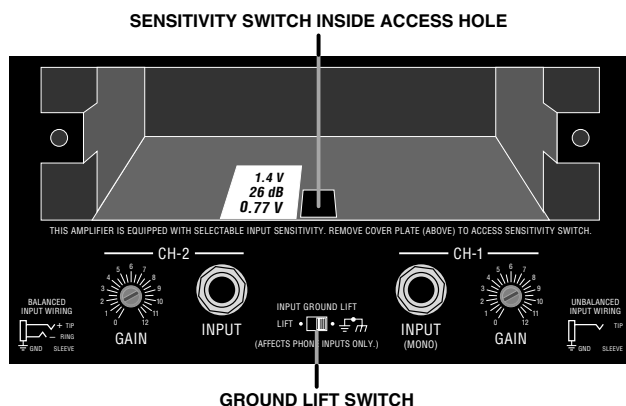

Figure 3.7 Input Sensitivity and Ground Lift Switches
2. Locate the access hole for the sensitivity switch inside the chassis opening (Figure 3.7). The sensitivity switch will not be visible because it is mounted below the hole. Use your little finger to reach it.
The **ground lift switch** (Figure 3.7) is located on the back panel and can isolate the input signal grounds from the AC (chassis) ground. It affects only the phone jack inputs and has no effect on accessory input connectors. Sliding the switch to the left isolates or "lifts" the grounds by placing an impedance between the sleeve of each phone jack and the AC ground.